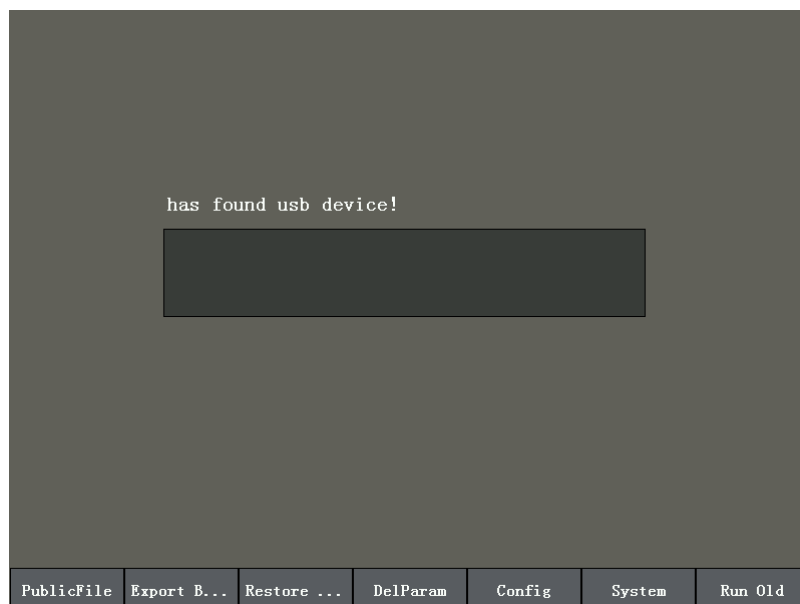

Fig. 4-1 Software update interface
- 3) Power on NK260 while pressing G key several times until entering USB equipment identification interface. After identification succeeds, the software update interface will be accessed, as shown in Fig. 4-1.
- 1) Press F2 to export system parameters to an USB disk under [Parameter Backup (B)] screen of [Parameter] function section.
- 4) Power on NK260 while pressing G key several times until entering USB equipment identification interface. After identification succeeds, the system will enter software update interface, as shown in Fig. 4-1.